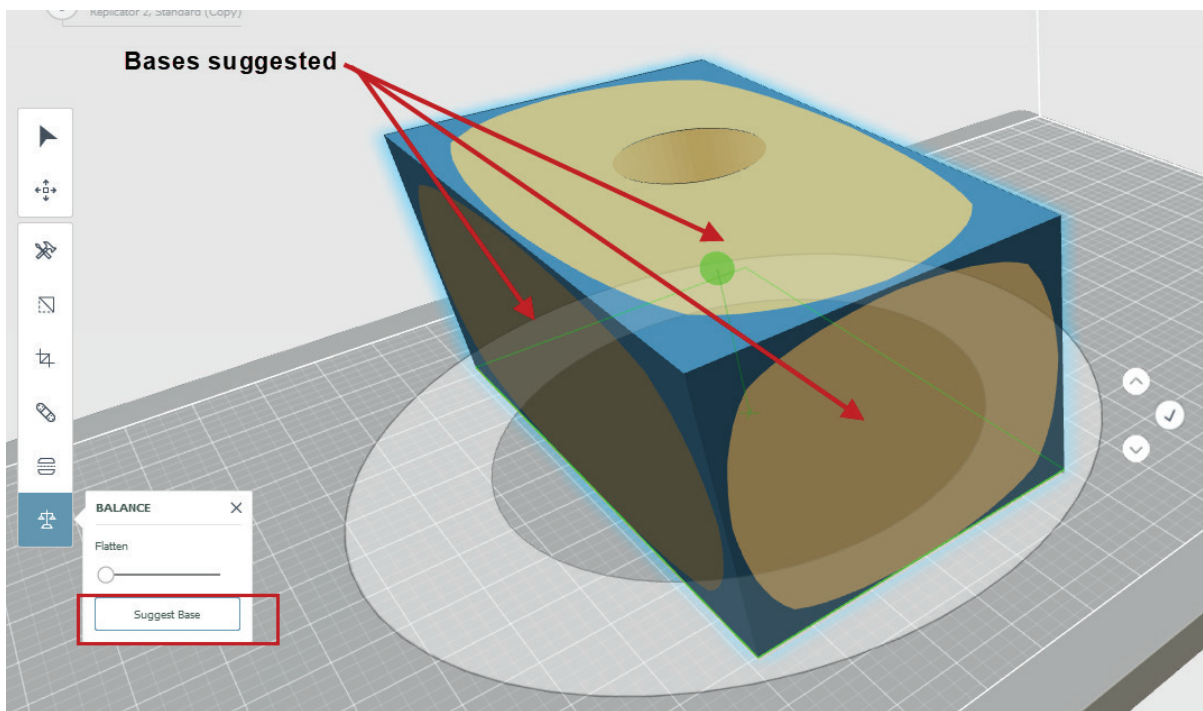

Figure-54. Bases suggested by Balance tool
- Click on the **Balance** tool from the left toolbar to check whether the part will be stable during 3D printing or not. The **BALANCE** toolbox will be displayed. Click on the **Suggest Base** button from the toolbox to display the faces that can be used as base; refer to Figure-54. Select the desired face to be used as base.